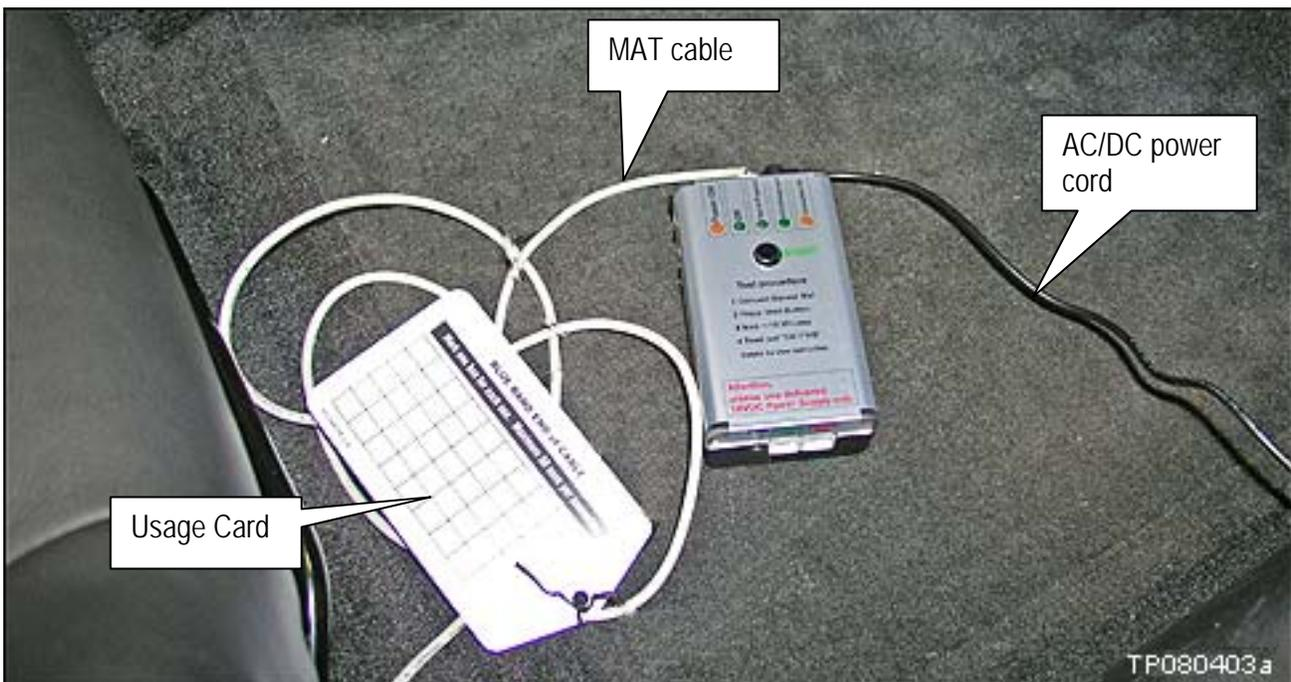

Figure 3
- Figure 3 shows the Varistor Test Tool connected to a vehicle.